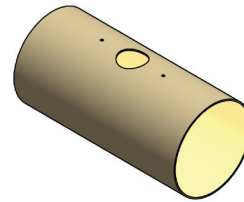

Fig. 63: Drilling two holes (diameter: 13 mm)
- 4 After removing the saddle, drill two holes (Ø 13 mm) (Figure 63).